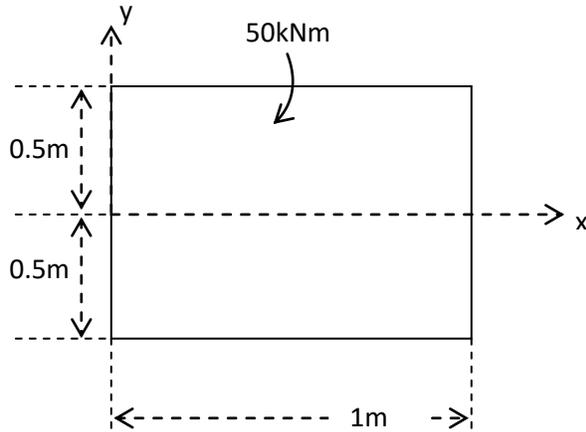

Fig.2. Simply supported plate
- Q.2. Find the deflection and rotations of the simply supported plate(**Fig.2**) at two different points, A(0.5m, 0.45m) and B (0.5m, -0.45m). The plate is subjected to a concentrated moment of 50kNm at the centre of one of the edge as shown in the figure. Use Levy's method to solve. Take, $E=10.92 \times 10^6 \text{ kN/m}^2$, $h=0.01\text{m}$ and $\nu=0.3$. [20]